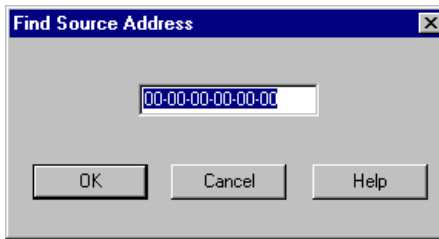

Figure 2-7. Find Source Address Window
2. Drag down to **Find Source Address...**, and release. The Find Source Address window, Figure 2-7, will appear.